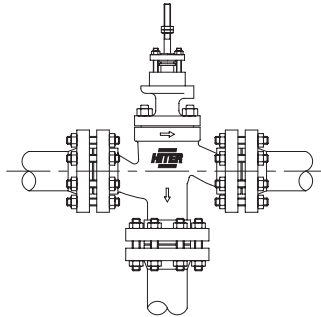

Fig. 1 – Valve installation
4.6. During the installation the actuator must be positioned on the valve and in vertical position (figure1). If possible, look for a position closer the vertical one. The horizontal position should be avoided and, in some cases, there should be a support to the actuator.